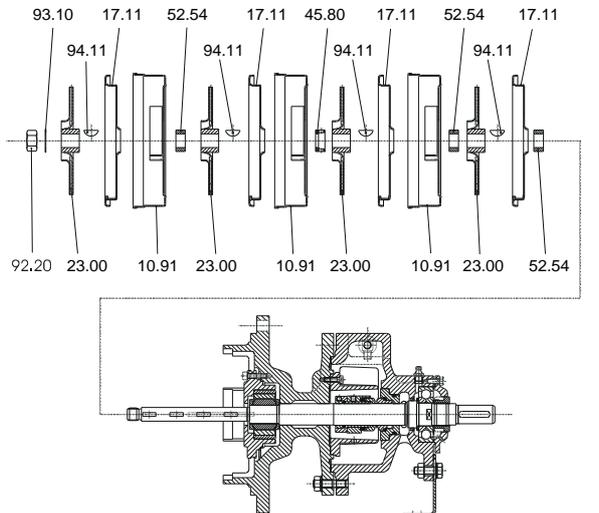

Fig. 2
4. Bend up tab washer 93.10 and unscrew impeller nut 92.20 (fig. 2).
5. In sequence, remove lock washer 93.10, impeller 23.00, spring washer 94.11, intermediates 17.11 and 10.91 (if restricted remove 17.11 and 10.91 complete) (fig. 2).
6. Then remove distance piece 52.54, second impeller 23.00, second spring washer 94.11, second intermediates 17.11 and 10.91 as well as lantern ring 45.80 (fig. 2).
fourth impeller 23.00 with spring washer 94.11, intermediate 17.11 and distance piece 52.54 (fig. 2).